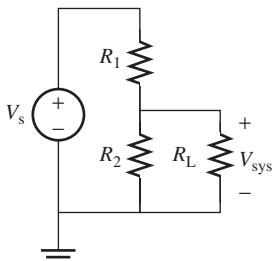

FIGURE P3.26 Circuit for Problem 3.26.
- 3.26 (H)** Assume that you need to power a system from a V_s power supply, but the system requires a voltage of V_{sys} . Use voltage division as shown in Figure P3.26, express R_1 as a function of R_2 , V_s , V_{sys} , and R_L . ($V_{sys} < V_s$)